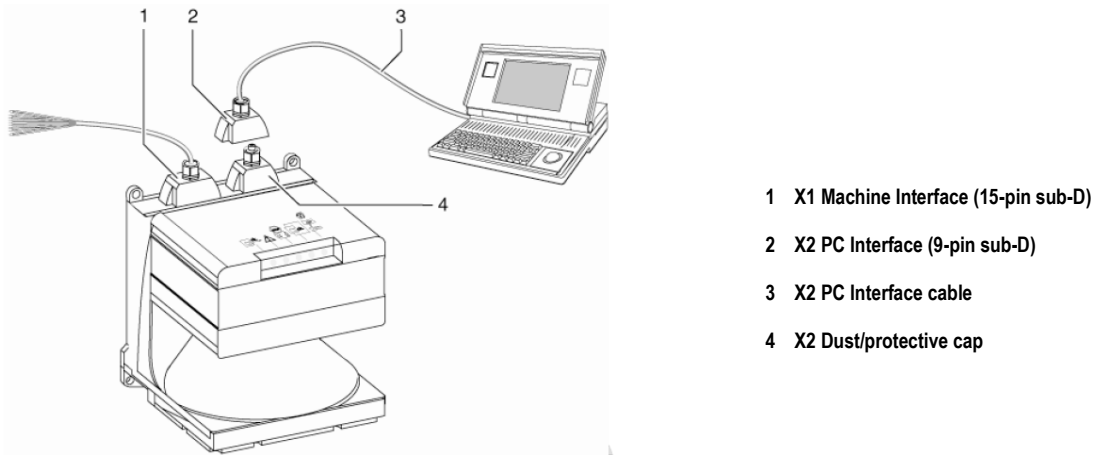

Figure 3-16. Scanner Interconnections
2. **If a Warning Field is used:** (with the guarded machine at rest) using the appropriate test piece (that matches the configured/expected resolution) interrupt the Warning Field perimeter and verify LED #2 (Yellow) turns ON as expected. Remove the test piece and verify that LED #2 turns OFF. Repeat this along the entire Warning Field perimeter as shown in Figure 3-16. Pay special attention at needle and cone-shaped areas (see Section 3.3.1).
3. With the appropriate test piece (that matches the configured/expected resolution) interrupt the perimeter of the Protected Field and verify LED #1 (Green) turns OFF. Remove the test piece and verify that LED #1 turns ON. Repeat this along the entire Protective Field perimeter (see Figure 3-16 below) and verify that the configured field: